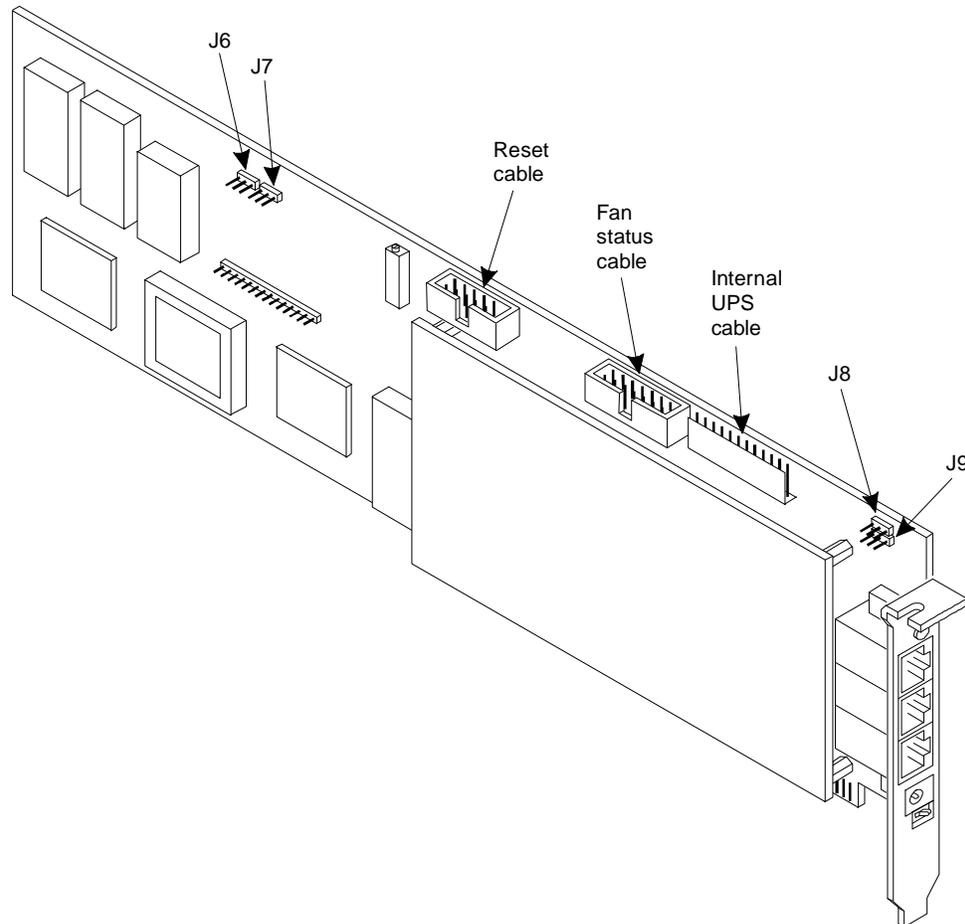
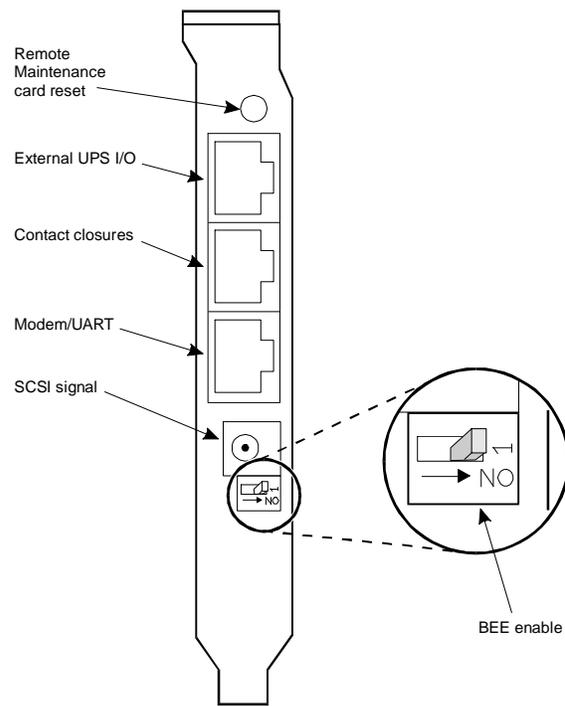
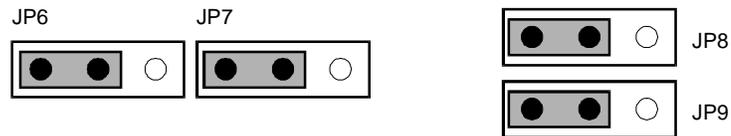

Figure 8-22. Remote Maintenance Circuit Card
Figure 8-23. Faceplate of the Remote Maintenance Circuit Card Showing the BEE Enable Switch
Figure 8-24. Jumper Settings for the Remote Maintenance Circuit Card
The MAP/100C accommodates a Remote Maintenance circuit card (Figure 8-22) to allow for remote diagnostics of basic MAP/100C components.
Figure 8-23 shows the faceplate of the Remote Maintenance circuit card and an enlarged view of the BIOS Extension EPROM (BEE) enable switch. Ensure that this switch is set to the ON (default) position as shown.
Figure 8-22 on page 8-27 shows the location of the four jumpers on the Remote Maintenance circuit card (J6, J7, J8, and J9). Ensure that a jumper is installed on pins 1 and 2 of each one as shown in Figure 8-24.
The following tables show the pinouts for the various connectors on the Remote Maintenance circuit card. Figure 8-22 and Figure 8-23 show the locations of these connectors.
9. Connect the suppression cable to the external modem connection on the faceplate of the card (see Figure 8-23 for the location of the modem/UART connection) and to the modem.